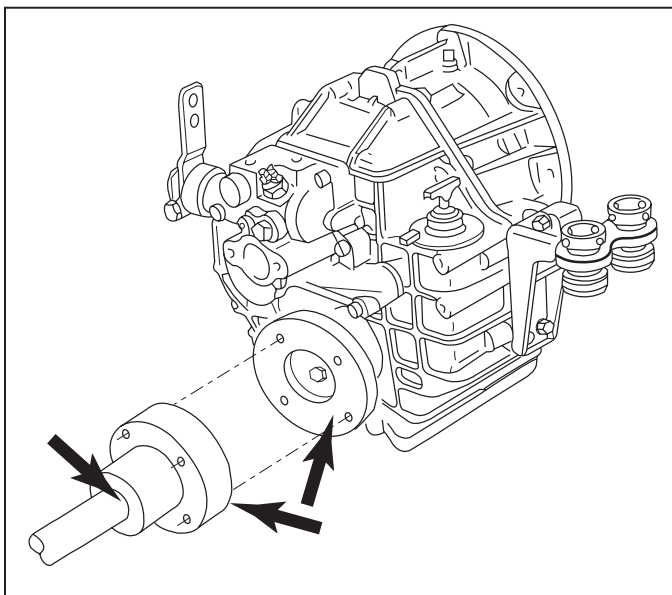

Figure 10-20 Shaft Mating Surface Check - 8 Degree Down Angle
1. Check the mating surfaces on the transmission and the propeller shaft couplings. Make sure they are clean and flat. (Figures 10-20, 10-21)